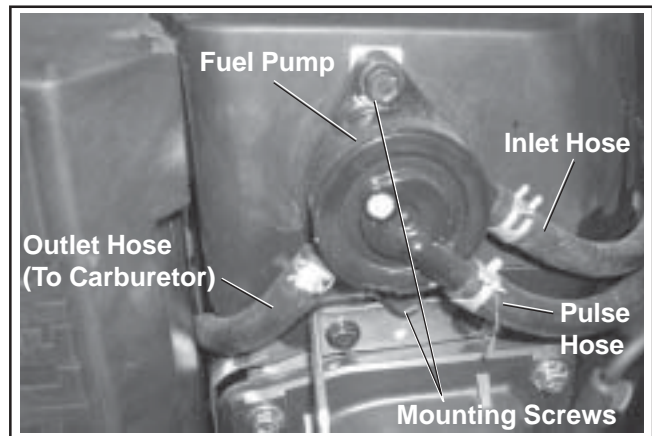

Figure 9-17. Pulse Fuel Pump Details.
3. Remove the two hex flange mounting screws from the blower housing and remove the fuel pump and lines as an assembly. See Figure 9-17.